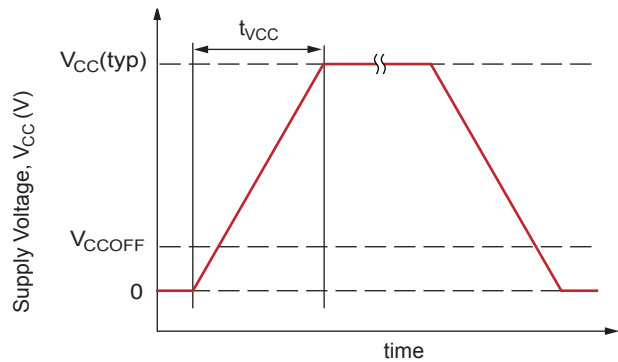

Figure 4. Definition of VCC Ramp Time,  $t_{VCC}$
**VCC Ramp Time.** The time taken for VCC to ramp from 0 V to VCC(typ), 3.3 V (see figure 4).
**VCC Off Level.** For applications in which the VCC pin of the A1315 is being power-cycled (for example using a multiplexer to toggle the part on and off), the specification of VCC Off Level, VCCOFF, determines how high a VCC off voltage can be tolerated while still ensuring proper operation and startup of the device (see figure 4).